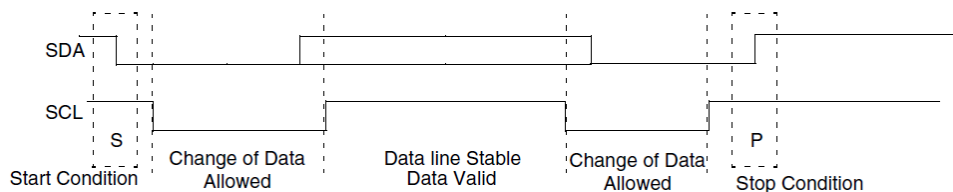

Figure 28: START and STOP Conditions
When the bus is idle, both the SCL and SDA signals are pulled high through external pull-up resistors on the bus. When the master wants to start a transmission on the bus, the master issues a START condition. This is defined to be a high-to-low transition of the SDA signal while SCL is 1. When the master wants to terminate the transmission, the master issues a STOP condition. This is defined to be a low-to-high transition of the SDA line while SCL is 1. Figure 28 shows the timing of the START and STOP conditions. When data is being transmitted on the bus, the SDA line must be stable when SCL is 1.
**Note:** The signal transitions for the START/STOP conditions, as depicted in Figure 28, reflect those observed at the output signals of the Master driving the I2C bus. Care should be taken when observing the SDA/SCL signals at the input signals of the Slave(s), because unequal line delays may result in an incorrect SDA/SCL timing relationship.